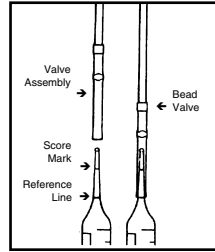

Figure 1
9. Push the valve assembly onto the Titret ampoule tip until it fits snugly (fig 1).